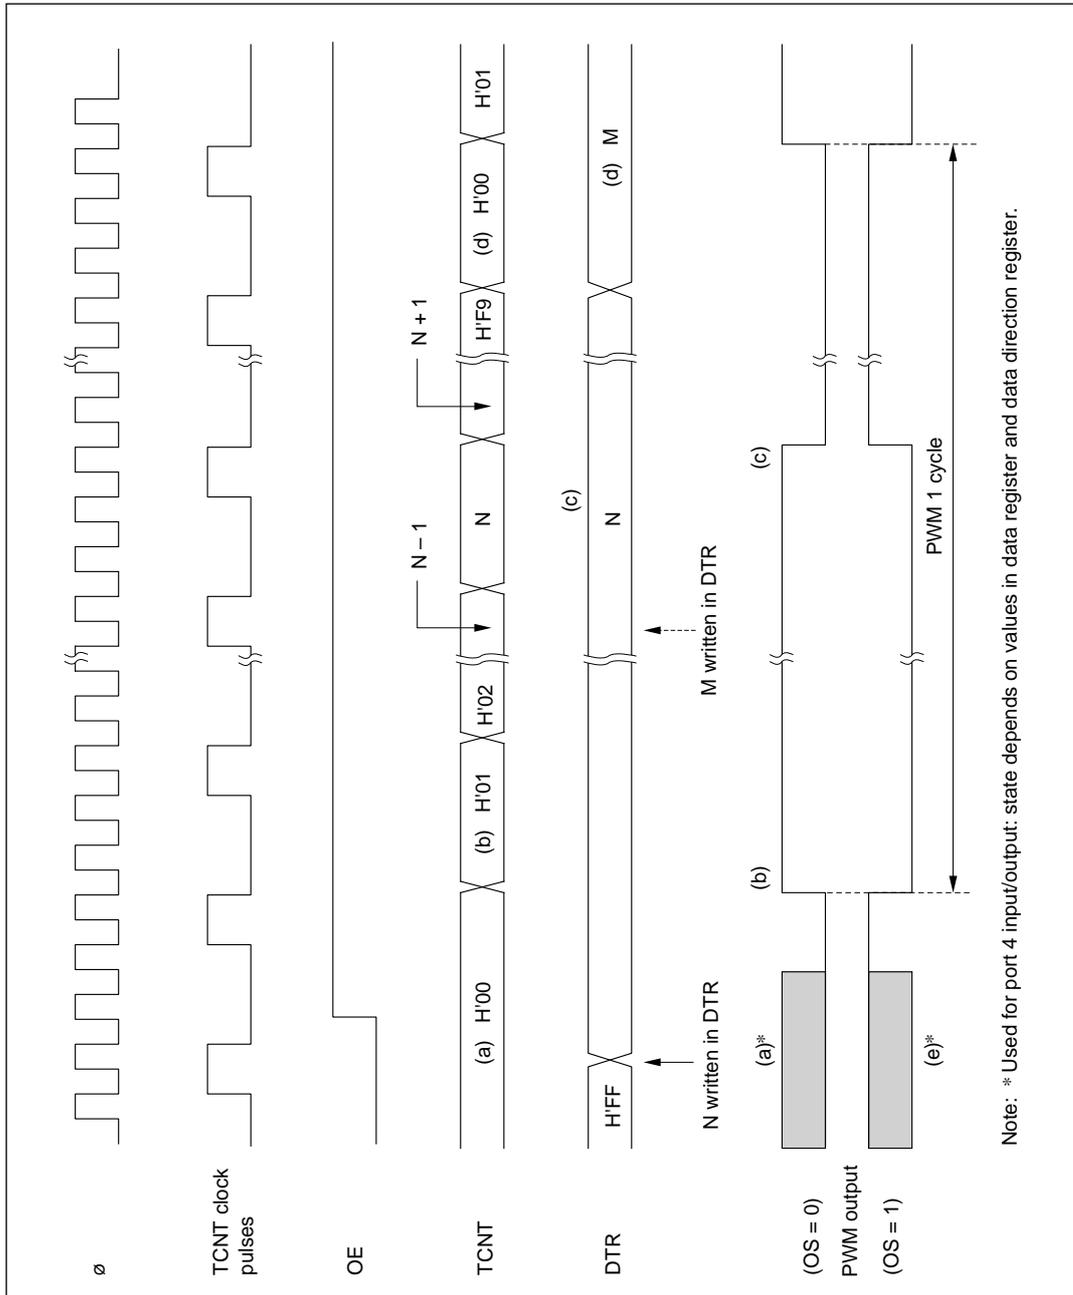

Figure 10-3 PWM Timing
Figure 10-3 is a timing chart of the PWM operation.
(1) Positive Logic (OS = 0)
① **When (OE = 0)—(a) in Figure 10-3:** The timer count is held at H'00 and PWM output is inhibited. [Pin 4₆ (for PW0) or pin 4₇ (for PW1) is used for port 4 input/output, and its state depends on the corresponding port 4 data register and data direction register.] Any value (such as N in figure 10-3) written in the DTR becomes valid immediately.
② **When (OE = 1)**
- i) The timer counter begins incrementing. The PWM output goes high when TCNT changes from H'00 to H'01, unless DTR = H'00. [(b) in figure 10-3]
- ii) When the count passes the DTR value, the PWM output goes low. [(c) in figure 10-3]
- iii) If the DTR value is changed (by writing the data “M” in figure 10-3), the new value becomes valid after the timer count changes from H'F9 to H'00. [(d) in figure 10-3]
(2) Negative Logic (OS = 1)—(e) in Figure 10-3: The operation is the same except that high and low are reversed in the PWM output. [(e) in figure 10-3]